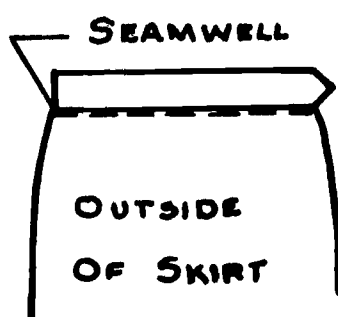

Figure 41.
- b. Another method for heavy weight fabrics and garments styled for durability is to stitch in the seamwell on the right side of the skirt (see Figure 41).